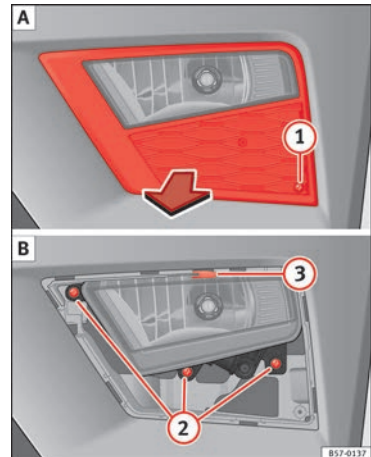
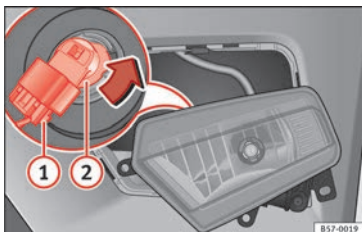

Fig. 106 Fog light: extracting the grille. »»
Fig. 107 Fog light: remove the bulb holder
1. Remove the screw » **Fig. 106 ① A** from the fog light grille using a screwdriver and extract the grille.
2. Remove the screws (3x) » **Fig. 106 ② B** and extract the fog light.
3. Remove the metal clip situated on the upper part of the fog light by pulling towards the exterior of the vehicle **③**.
4. Remove connector » **Fig. 107 ①** from the bulb.
5. Turn the bulb holder » **Fig. 107 ②** anticlockwise and pull.